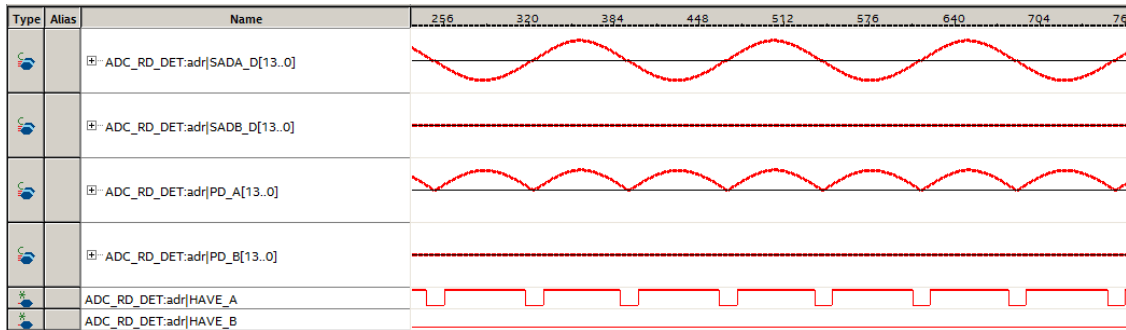

**Figure 4-6 Hardware setup for the HIGH-SPEED-ADC**
- Connect the output of a signal generator to the SMA connector J21 (ADC-A) or J23 (ADC-B) of ADC-SoC, as shown in **Figure 4-6**.